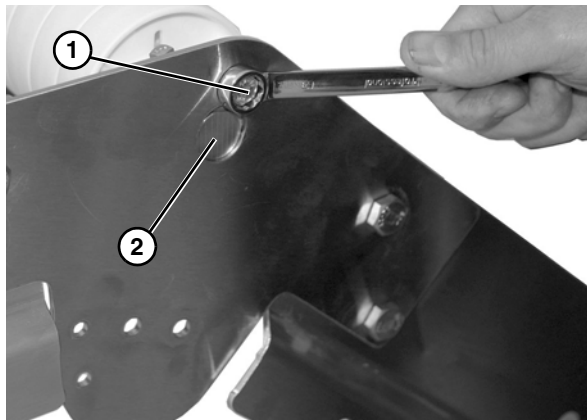

Figure 60
- Remove cap screw (**Figure 60, item 1**) for upper knuckle shaft assembly (**Figure 60, item 2**).